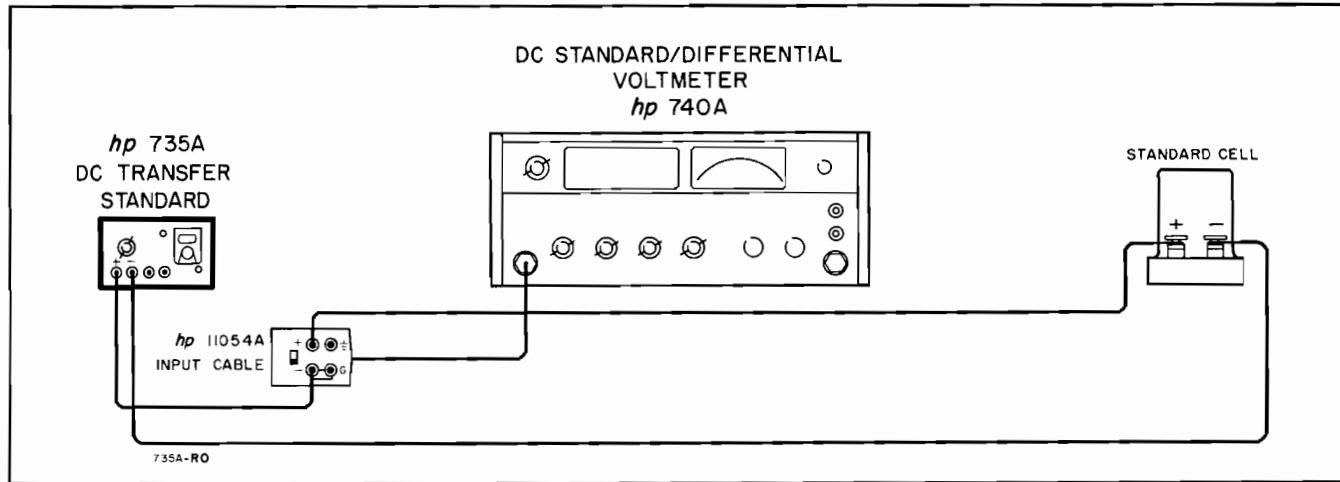
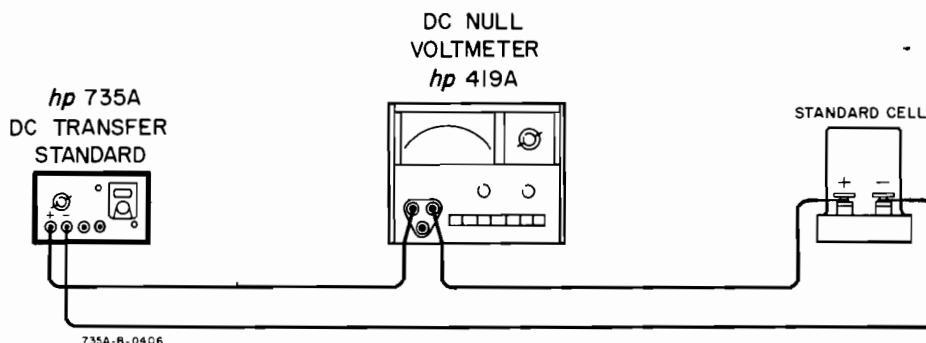

Figure 5-1. Standard Output Accuracy Check
Figure 5-2. Output Noise Test Setup
- d. Connect the 735A as shown in Figure 5-1. (Use solid copper wire tightened securely for all operations of the 735A.) Use an unsaturated standard cell and connect the positive terminal of the standard cell to the positive terminal of the 740A.
- m. Absolute reference may be checked by connecting the 735A as in Figure 5-1 or Figure 5-2 using the saturated standard cell(1 ppm)
- a. Connect the Model 735A as shown in Figure 5-2.
- Final adjustment: connect the 735A as in Figure 5-1 or Figure 5-2 using a calibrated saturated Standard Cell and a 419A Null Voltmeter or 740A Differential Voltmeter.